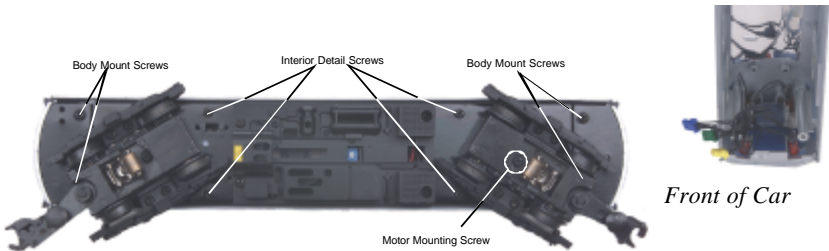

Figure 3
1. Remove the four Phillips screws from the chassis, as seen in Figure 3, then lift the body partially away from the chassis. Unplug three connectors (2 pin type) located at the front of the car to separate the body completely from the chassis.
2. Remove the four Interior Detail Screws shown in Figure 3 and separate the interior detail from the chassis.